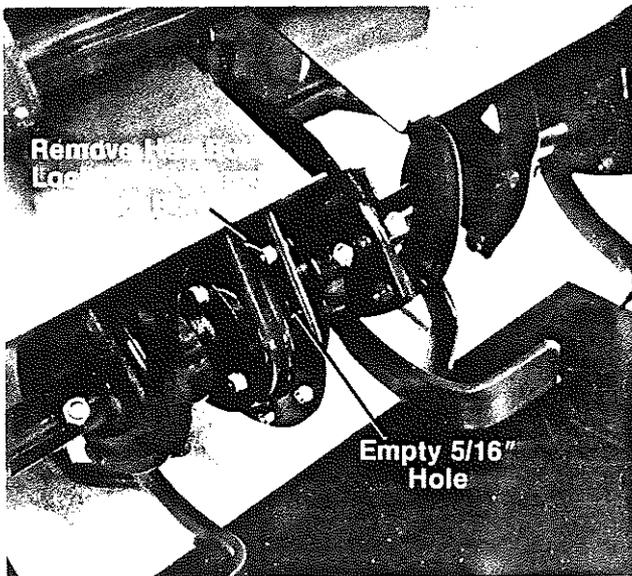

FIGURE 3.
- See figure 3. Discard the hex bolt only.